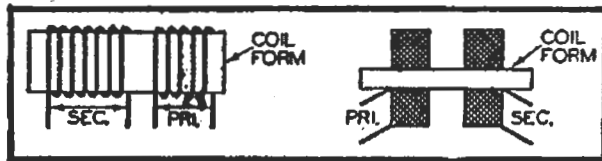

FIG. 27. Loose coupling.
**Loose Coupling.** Where loose coupling is desired, as in some r.f. transformers, the two coils generally are arranged in one of the two ways shown in Fig. 27, so that there is considerable space between the coils. Only a small fraction of the magnetic flux thus links with the secondary coil.